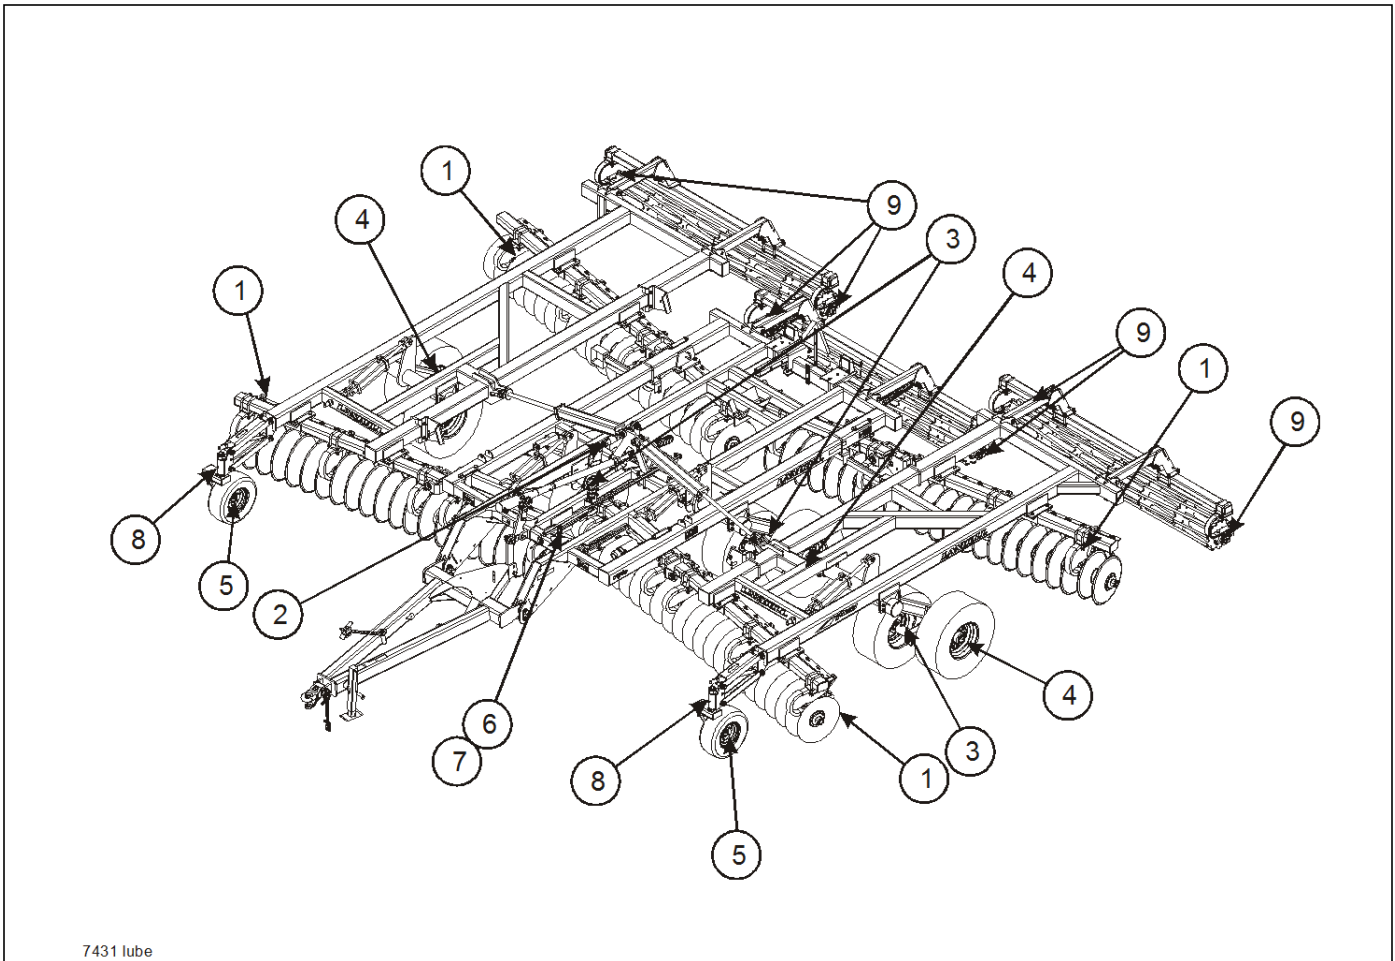

Figure 4-22: Lubrication Schedule
1. **Table 4-1** specifies the number and the period of lubrication points on the 7431 VT Plus. Proper maintenance of your machine will, under normal operating conditions, help to keep it operating at or near its peak performance for an extended period of time. Proper maintenance is also a condition of keeping your warranty in good status (**See Figure 4-22.**)